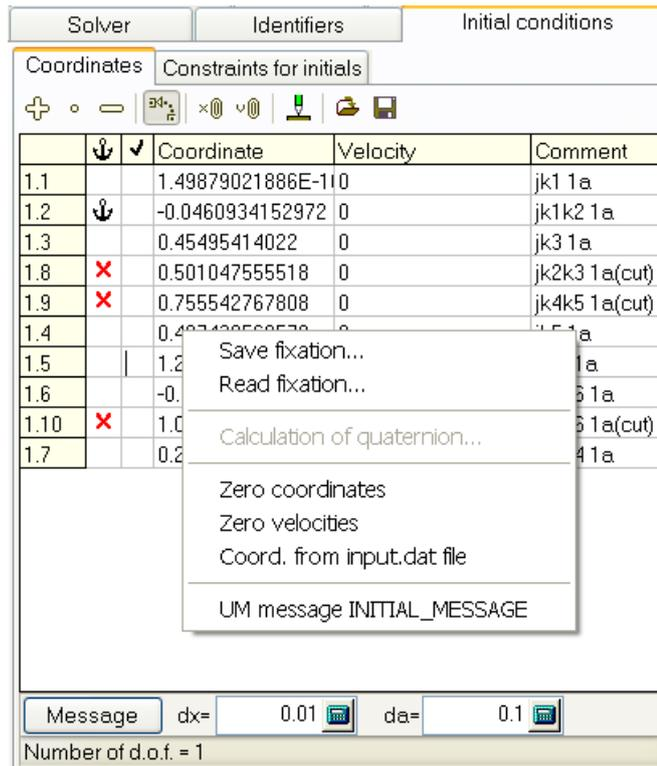

Figure 4.92. Initial conditions tab and the corresponding pop-up menu
Working with the master of initial conditions requires some experience. Consider the elements in Figure 4.92.
The number of degrees of freedom is written in the status bar of the coordinate table, Figure 4.92. Use the ,   buttons to get this number. The button  must be in the 'down' state.
- **List of commands of the pop-up menu, Figure 4.92.**
Message INITIAL_MESSAGE. The command sends a message with the key INITIAL_MESSAGE to a control file like the top button Message in Figure 4.92. The tool is used by programming using the control file, see Chapter 5.